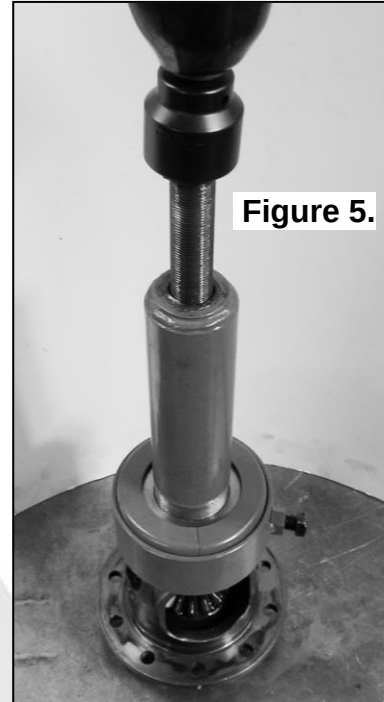

Figure 5.
- ☐ Remove the original bearings from the differential center using a bearing puller (Fig.5.).